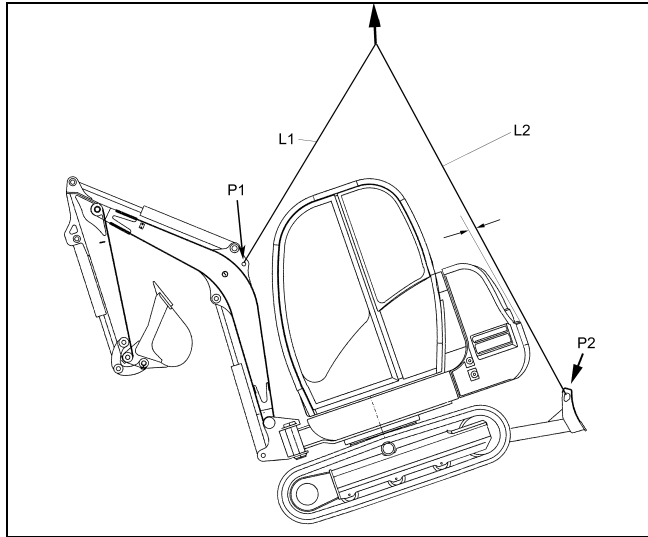

Figure 3-44 Machine Lifting Points
- Maintain the center-of-gravity and balance points on the machine (Figure 3-44).